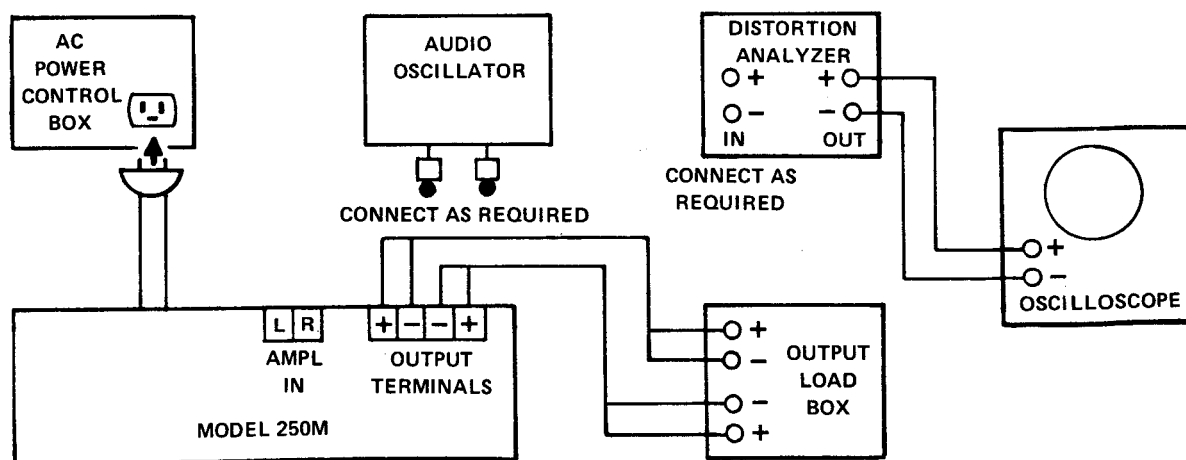

Figure 6. Test Equipment Connection, Block Diagram
1. All tests are performed with the unit under test and the test equipment connected as shown in Figure 6. All tests are conducted with 120 V ac line voltage applied to unit. Unless otherwise specified in the procedure, the test equipment controls will be set to the following positions.